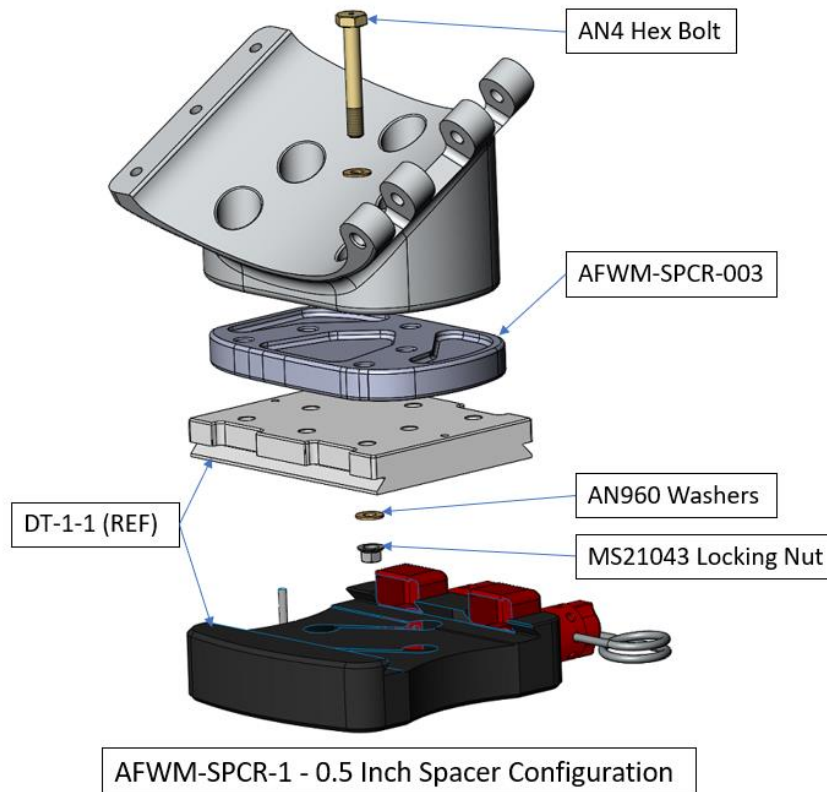

Figure 10. Exploded view of AFWM-SPCR-1 Assembly with Reference DT-1-1 Quick Disconnect
3. Refer to Figure 10 for spacer and fastener stack-up. DT-1-1 quick disconnect device shown for reference.